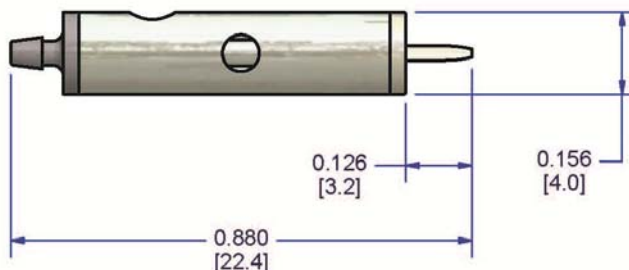

Figure 1 Physical Dimensions of MJ-AB-01 (in inches)
- Dimensions for the MJ-AB-01 device are shown in Figure 1.